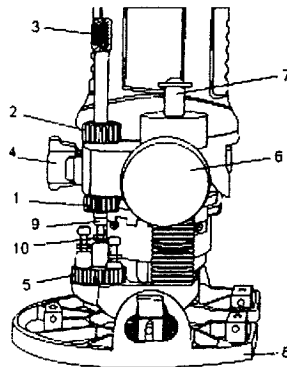

Fig. 17
1. Turn lower depth stop lock nut (1) to the bottom of depth stop rod and upper depth stop lock nut (2) to the top of depth stop rod (3) (see Fig. 17).
2. Push depth stop quick release button (4) and raise the depth stop rod to its maximum height and then release the button.
3. Rotate plunge action turret (5) until the shortest stop screw is under the depth stop rod.